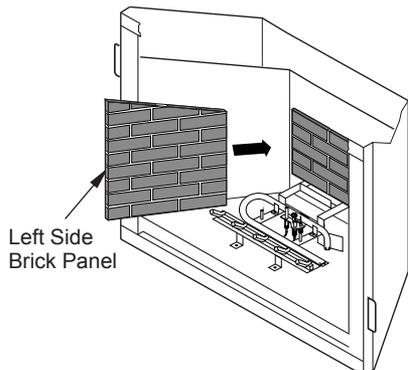

Figure 40 - Installing Side Brick Panels
6. Install left side brick panel by sliding it between grate and side of firebox (see Figure 40).